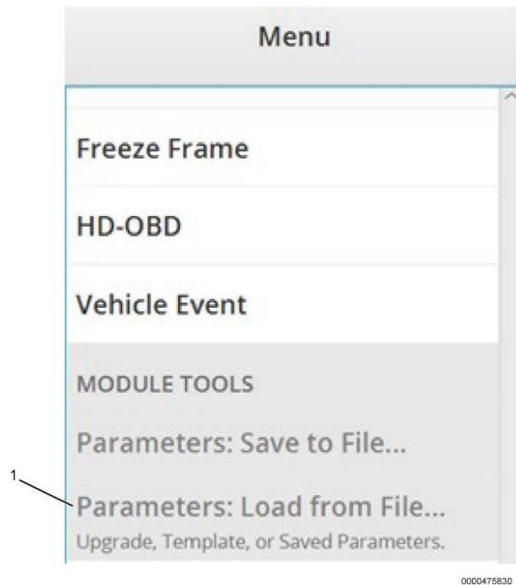

Figure 2. Menu Selection
13. Select **PARAMETERS: LOAD FROM FILE** (Figure 2, Item 1).